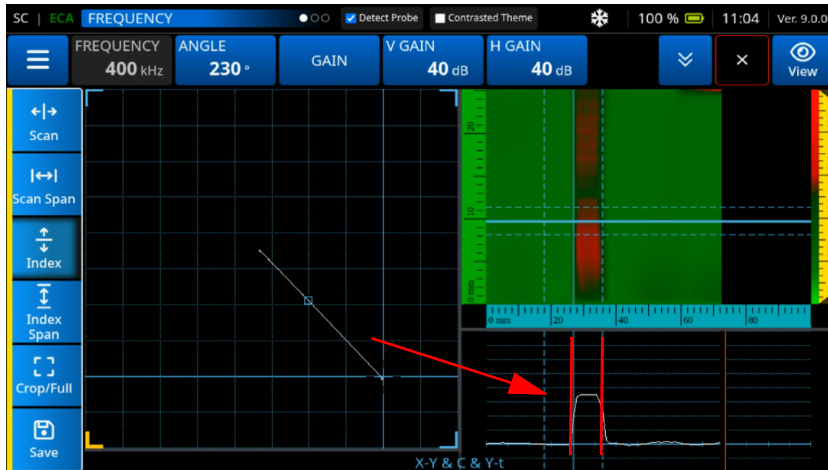

Figure 4-26 Confirm the Lift Off Edges
6. Using the **Scan** and **Scan Span** cursors, select the edge of the **Lift Off** signal (See Figure 4-26 on page 141).